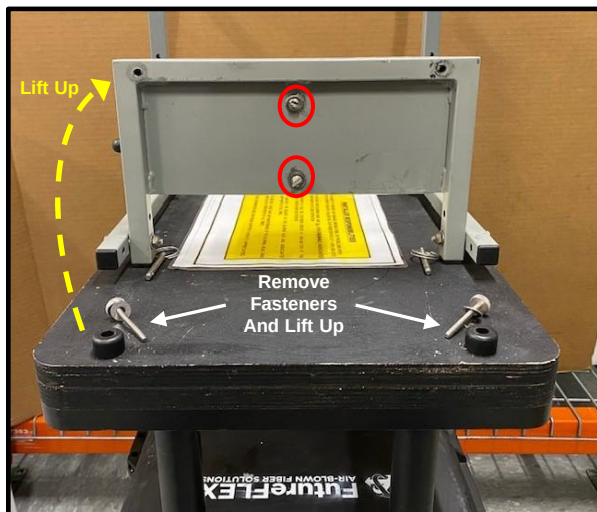

Figure 52
14.7.1 Remove two (2) fasteners (knurled-head bolts) that secure front of Payoff Stand Shelf to the Inner Case. Lift the hinged Shelf to gain access to the two (2) thumb screws under the Blowing Head. **See Fig. 52**